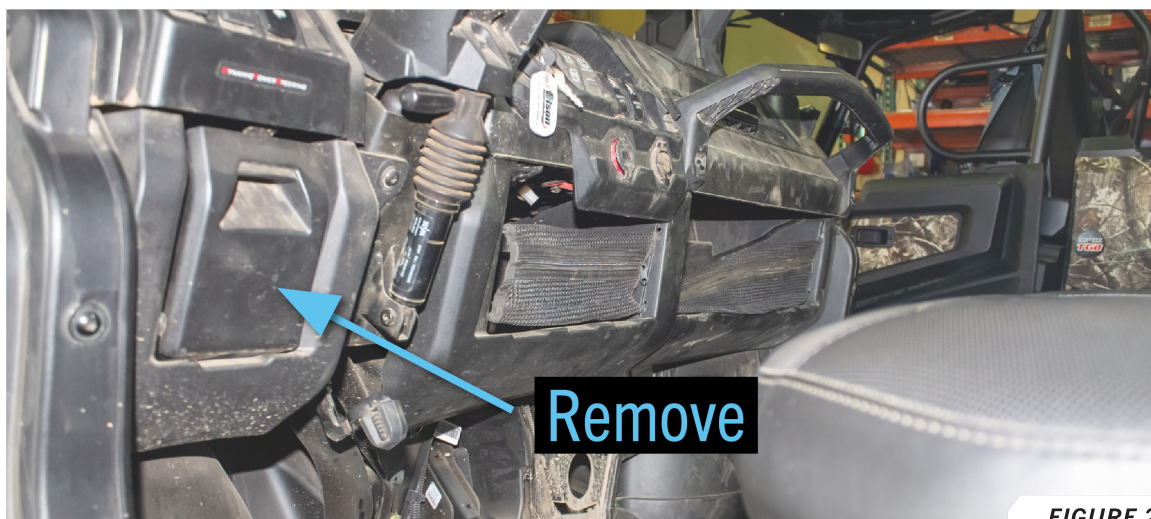

FIGURE 2
3. Remove the little compartment to the left of the steering column. **FIGURE 2**